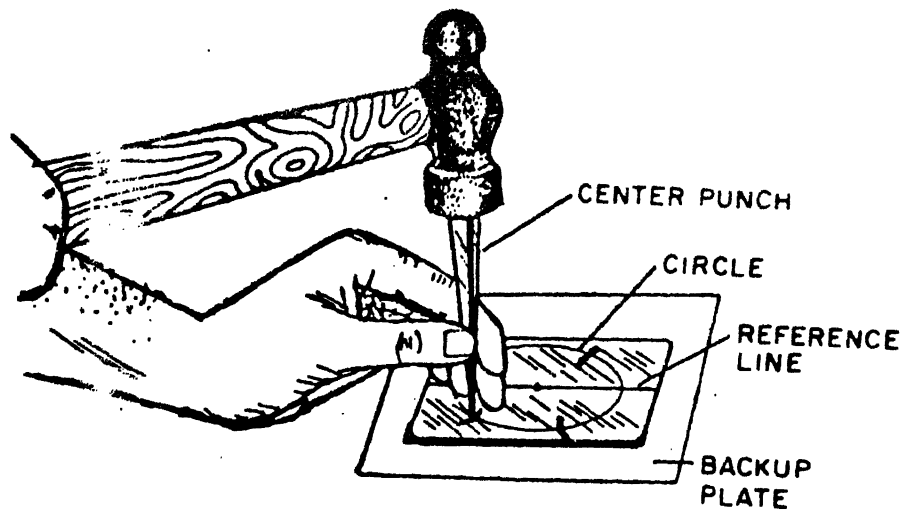

FIGURE 9
- *(1) Hold center punch at a right angle to the plate.
- *(2) Using flat face of the ball peen hammer, squarely strike the center punch once. See figure 9.